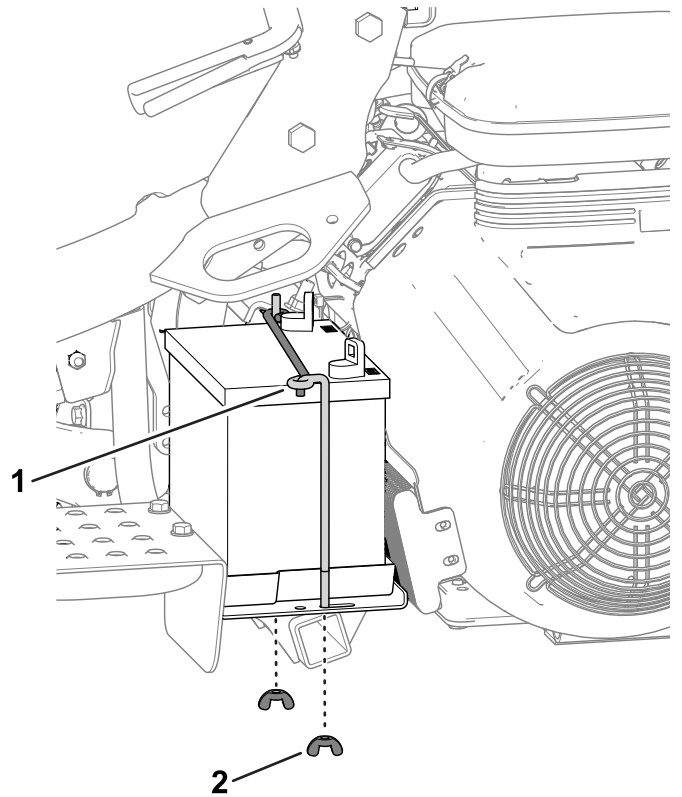

Figure 45
5. Place the battery on the battery tray and secure it with the previously removed rods and fasteners (Figure 45).
2. Remove the wing nuts and rods that secure the battery to the platform (Figure 45) and lift out the battery.